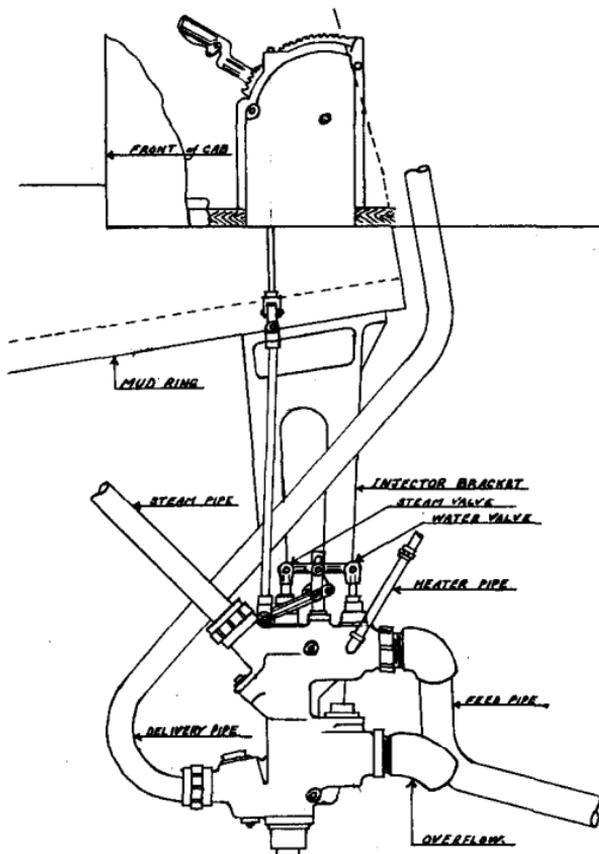

Fig. 10.-Type SR Non-Lifting Injector
**Type SR Non-lifting Injector with single lever operated on quadrant on inner side of cab (Fig 10, page 19).**